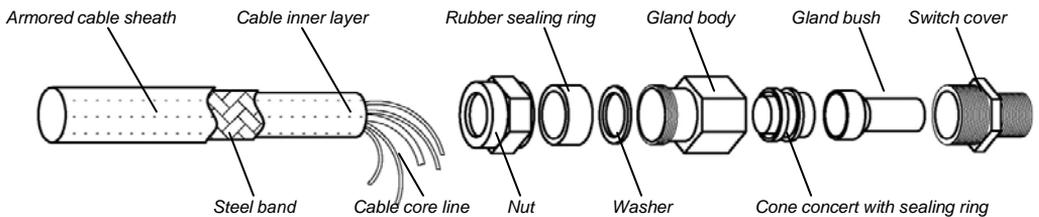

Fig.5.
a. As Fig.5, according to the fact requirement, remove proper length for the outer sheath of cable to expose the metal armor (steel plate) and cut off the superfluous part.